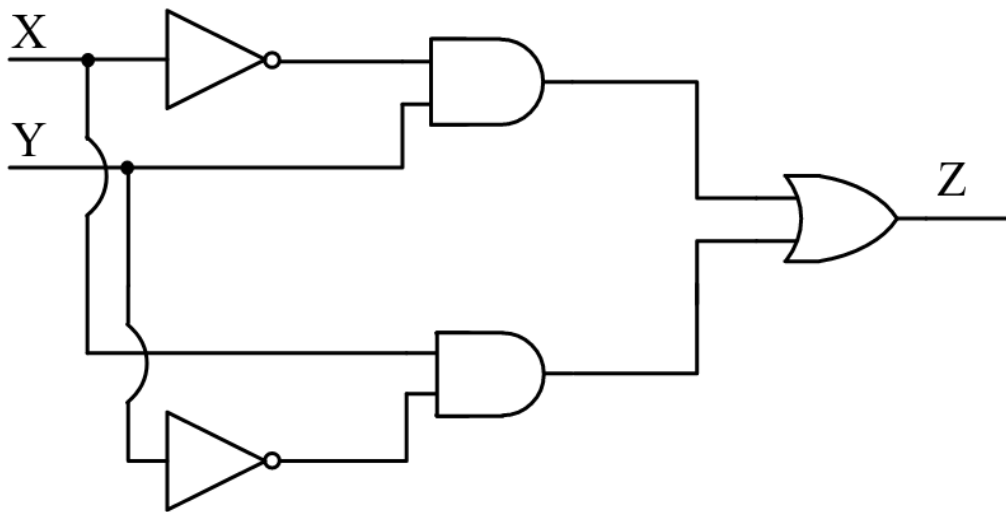

Figure 3.10:
23. Find the logic function implemented by the circuit given below in Fig. 3.10 (GATE EE 2019)